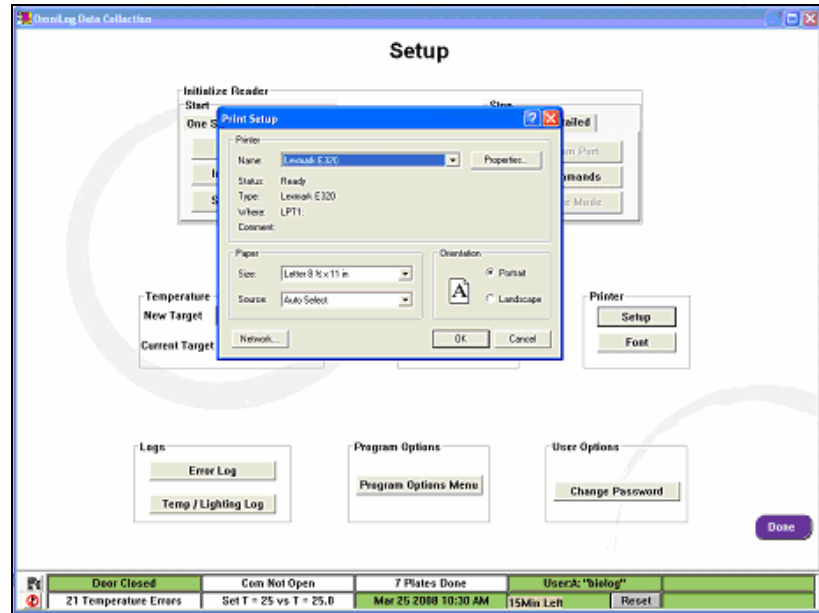

Figure 15 Printer Setup (Setup Window)
4. Make your changes and close the **Print Setup** window (Figure 15) to return to the **Setup** window.